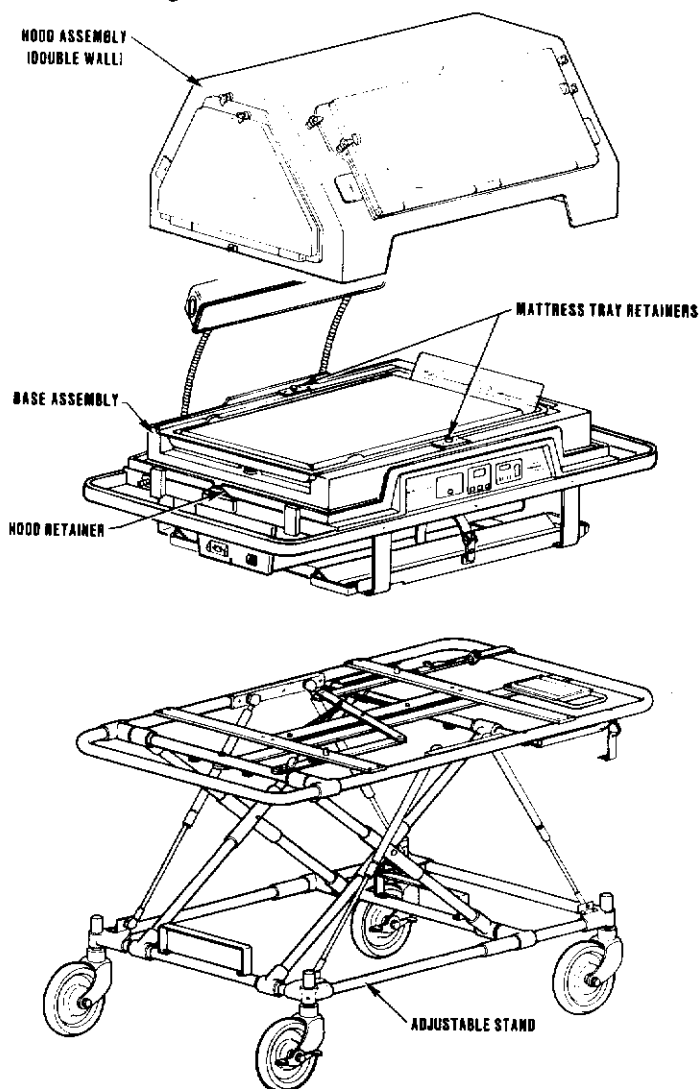

FIGURE 2.1 ASSEMBLY
To install the Transport Incubator on an Air-Shields® Adjustable Stand (accessory) refer to Figures 2.1 and 2.2.
1. INSTALL THE HOOD ON THE BASE ASSEMBLY as shown in Figure 2.1. Make sure that the Hood is secured to the Base with the two rubber retainers.